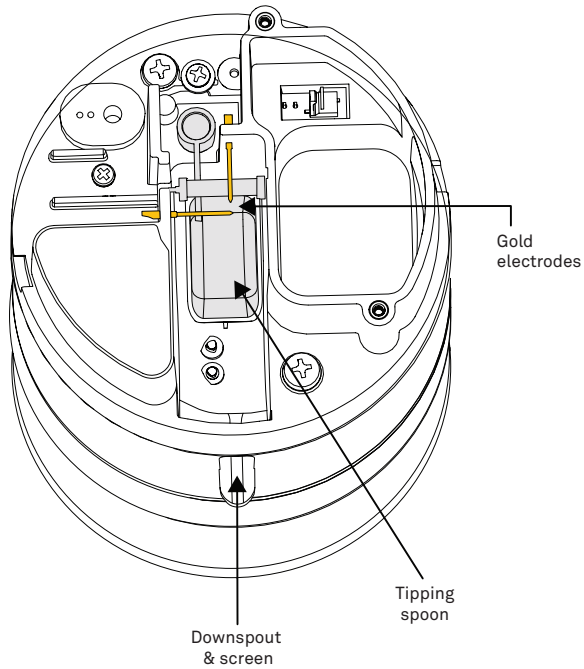

Figure 16 Downspout and screen
2. Check to be sure the downspout screen is in place on the water exit downspout (Figure 16) before replacing the rain funnel.